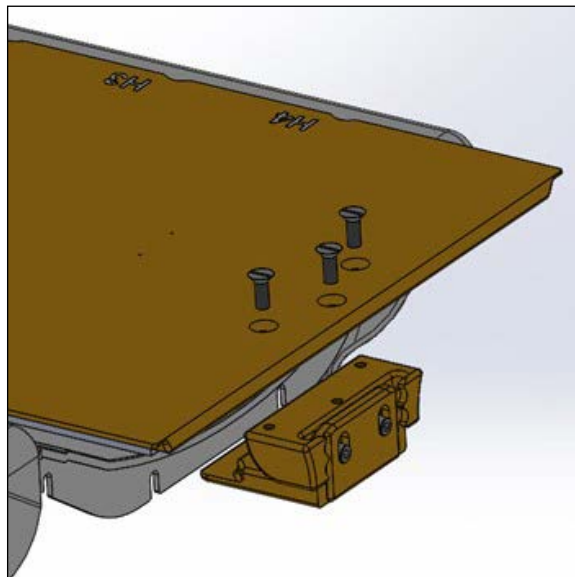

Fig. 13
2. Install Head End Assembly onto CT Overlay using plastic $\frac{3}{8}$ –16 Flat Head Screws (Fig. 13).